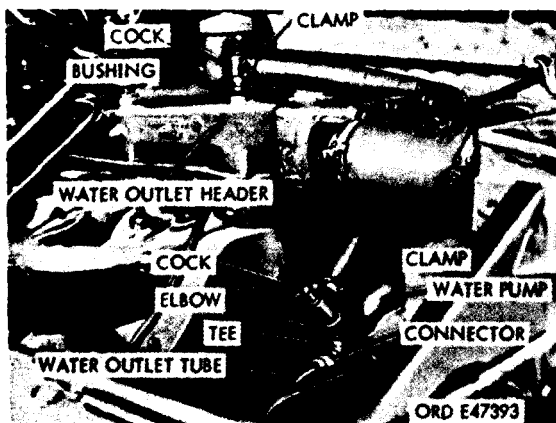
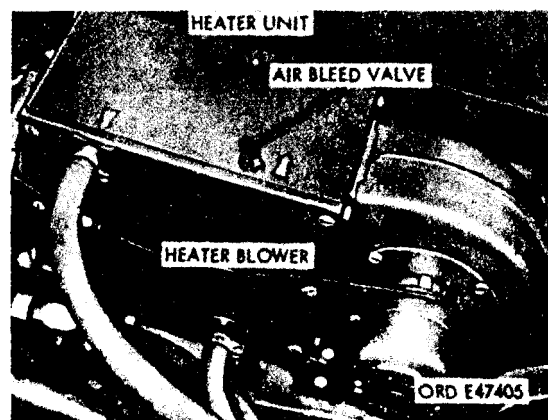

Figure 604. Heater hose connections
Figure 616. Heater assembly installed
- (10) Remove water outlet tube that connects air compressor and water pump (fig. 604). Remove connector from water pump. Coat the threads of tee, elbow, and cock with a suitable sealing compound and install in the water pump as shown in figure 604. Coat connector with sealing compound and install in the
tee. Install new water outlet tube (fig. 604) between air compressor and water pump.
- (11) Remove plug from water outlet header. Coat bushing and cock (fig. 604) with
- (12) Cut both lengths of hose to 36 inches. Connect one hose to heater unit inlet and to cock on water outlet header (fig. 600). Secure hose with two clamps. Connect the remaining hose to the header outlet and to the cock located on the water pump (fig. 604) in the same manner.
- (1) Fill cooling system as detailed in TM 9-2320-211-10.
- (2) Connect battery cables.
- (3) Open cock on water outlet header and water pump (fig. 604). Operate engine until coolant reaches normal operating temperature. Open air bleed valve on heater unit (fig. 616) to expel all air from the cooling system. Close valve when a steady stream of water flows from valve.
- (4) Replenish coolant in cooling system.